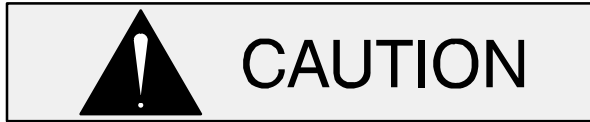

**Figure C-3. Lubricating Bearing Cavity**
**The bearing housing was not lubricated when shipped from the factory.** To lubricate the bearing cavity, fill the constant level oiler as shown in Figure C-3 with SAE No. 30 non-detergent oil, then close the oiler and allow the oil to drain into the bearing cavity. Repeat this procedure until oil no longer drains from the constant level oiler.